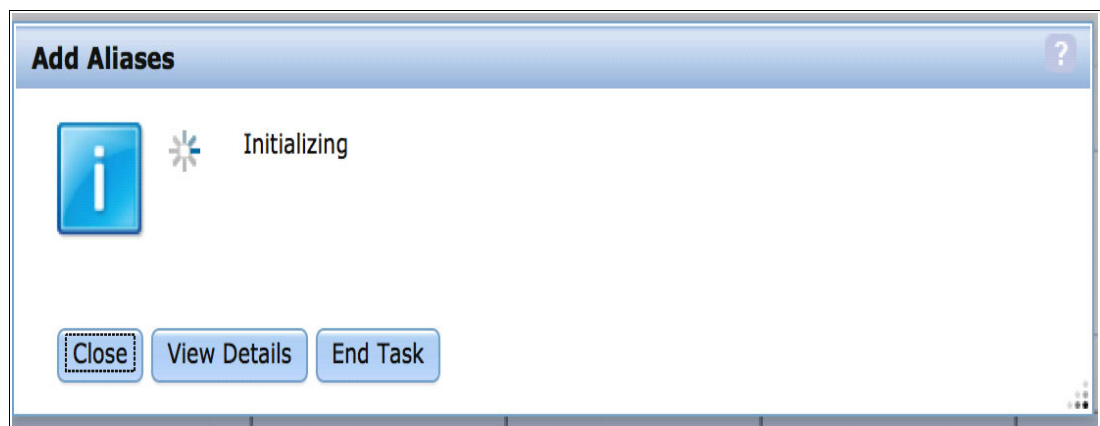

Figure 6-29 Alias initialization in progress
4. We select **Finish**. The Add Aliases progress panel displays, as shown in Figure 6-29.